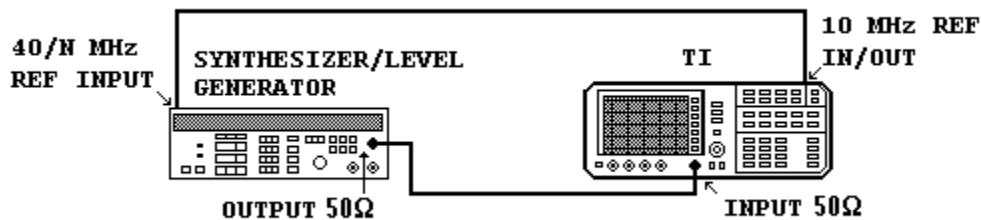

Figure 5. Frequency response - equipment setup.
(14) Repeat technique of (8) through (12) above setting signal generator frequency and TI **[CENTER FREQ]** to 13, 12.5, 12, 11.5, 11, 10.5, 10, 9.5, 9, 8.5, 8, 7.5, and 7 GHz. Measuring receiver indication will be within  $\pm 3$  dB of indication recorded in (7) above.
(15) Repeat technique of (8) through (12) above setting signal generator frequency and TI **[CENTER FREQ]** to 6.46, 6, 5.5, 5, 4.5, 4, and 3.5 GHz. Measuring receiver indication will be within  $\pm 2.5$  dB of indication recorded in (7) above.
(16) Repeat technique of (8) through (12) above setting signal generator frequency and TI **[CENTER FREQ]** to 2.9 GHz, 2 GHz, 1.5 GHz, 1 GHz, 500 MHz, 100 MHz, 50 MHz, and 20 MHz. Measuring receiver indication will be within  $\pm 1.5$  dB of indication recorded in (7) above.
(17) Set signal generator frequency to 10 MHz.
(18) Repeat (9) above.
(19) Press TI **FREQUENCY** key then **[CENTER FREQ]** to 10 MHz.
(20) Press TI **SPAN** key then **[SPAN WIDTH]** to 10 kHz.
(21) Press **MARKER PEAK SEARCH** key.
(22) Adjust signal generator level output for a TI **MKR** amplitude indication between -9.95 and -10.05 dBm.
(23) Measuring receiver indication will be within  $\pm 1.5$  dB of indication recorded in (7) above. Record measuring receiver indication.
(24) Connect equipment as shown in figure 5.